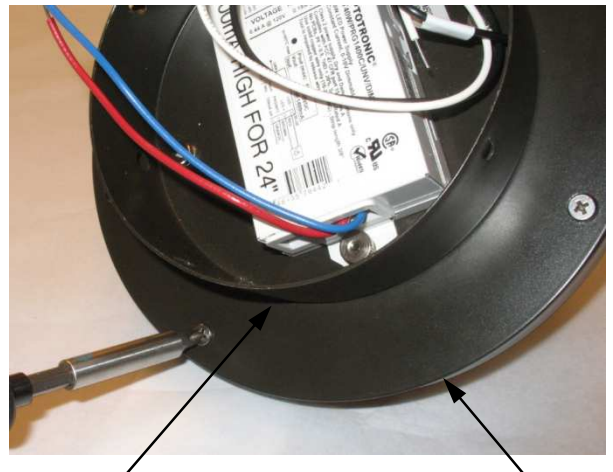
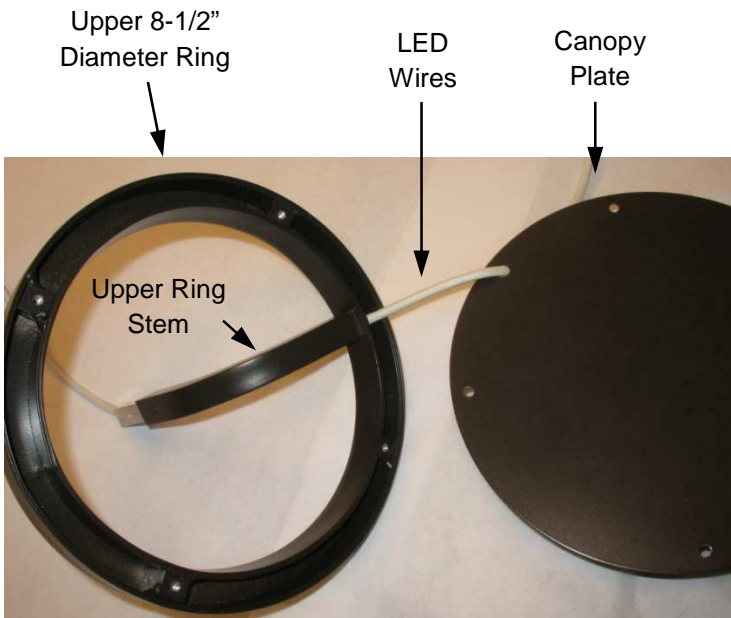

Figure 2
Figure 3
Step 4: Remove the Canopy Plate in preparation to running LED Wires thru the Stem and into the Driver Compartment. Figure 2 Route the LED Wires from the Lower LED Ring thru the Stem, Upper 8-1/2" Diameter Ring, Canopy Plate and into the Driver Compartment thru the large round holes. Re-attach the Canopy Plate – maintain the orientation of the large hole in the Canopy Plate to the Upper Ring Stem. Figures 3 & 4